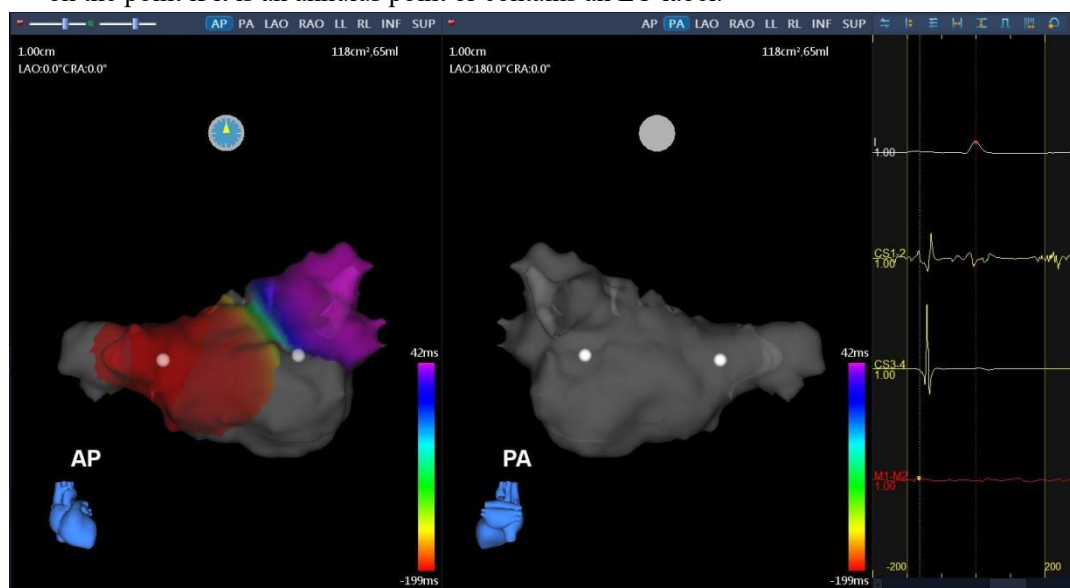

Figure 8-11 RTM Transparent Display
- 2) Press and hold the model with the left mouse button while pressing "plus" or "minus" in the keypad to adjust the transparency of the model (Figure 8-11).